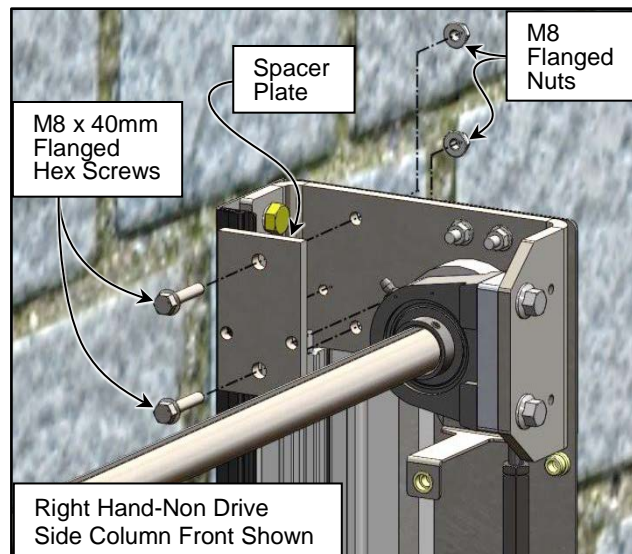
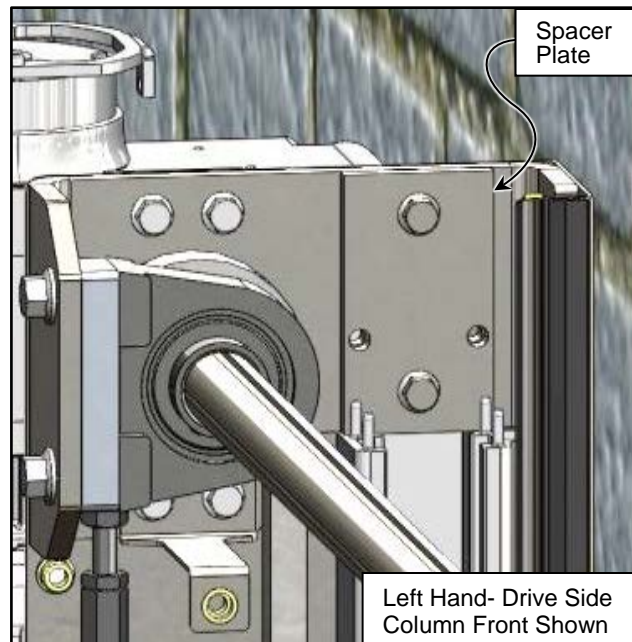

Figure 59
Figure 60
1. Locate, identify, orient, and install the upper track side column spacer and fasteners in both side column assemblies as shown. (See Figure 59 & Figure 60)